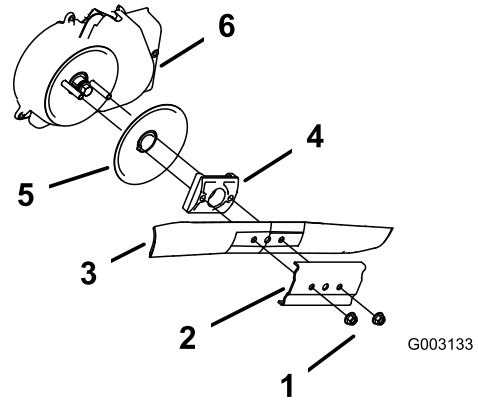

Figure 48
3. Remove the 2 blade nuts and the stiffener (Figure 48).
4. Remove the blade (Figure 48).
5. Remove the blade driver and the anti-scalp disk (Figure 48).
6. Remove the blade-stop system shield (Figure 48).
10. Install the blade and the stiffener with the 2 blade nuts that you previously removed (Figure 48).